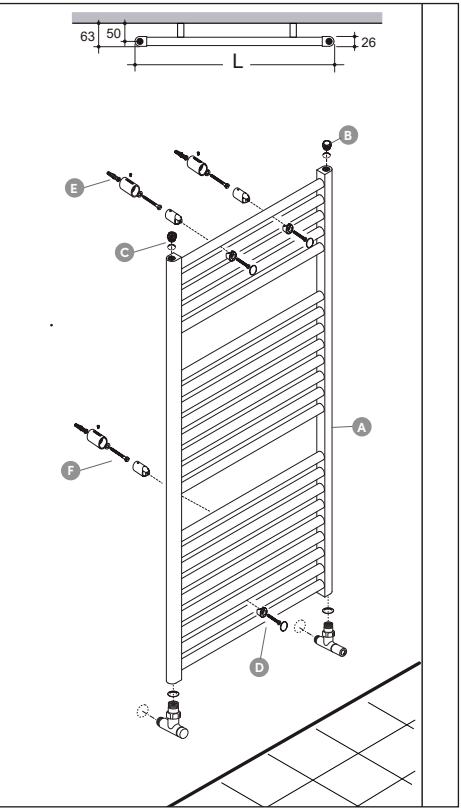

Figure 03
- The air vent must always be installed on the side opposite the control valve (see Figure 03, page 13).
1. **Install the blanking plug.** Screw the blanking plug (C) into the upper connection of the water inlet manifold (with the control valve fitted at the bottom).
2. **Install the air vent valve.** Screw the air vent valve (B) into the upper connection of the water outlet manifold (with the lockshield valve fitted at the bottom).
3. **Drill the fixing holes.** Drill holes with a diameter of 8 mm and a minimum depth of 65 mm, then insert the wall plugs (E).
4. **Install the mounting brackets.** Install the mounting brackets (F) as shown in the exploded view in Figure 03.
5. **Hang the radiator.** Carefully hang the radiator (A) onto the mounting brackets.